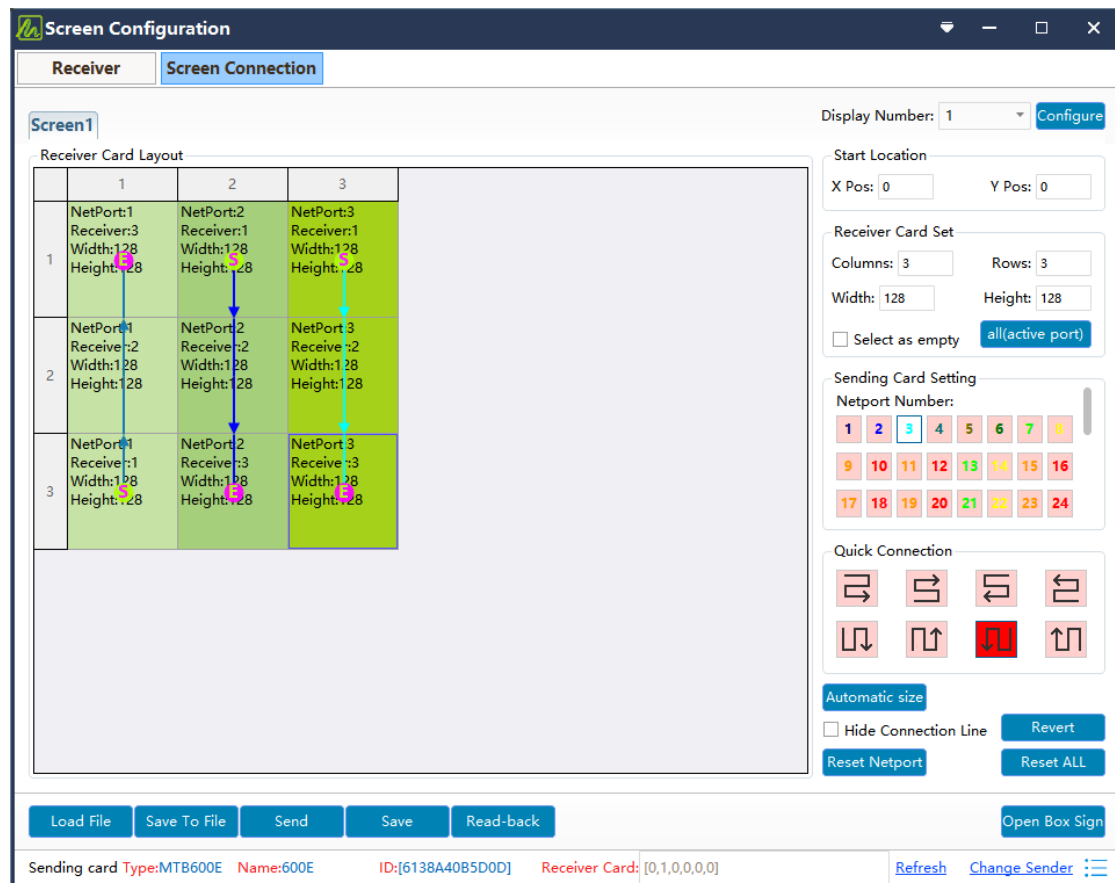

Figure 4-2-13 Receiver-card cascade direction
- In the Screen Connection workspace, set the receiver-card cascade direction and the load width and height for each card to match the physical display. Individual cards may use different load dimensions, as shown in Figure 4-2-13.